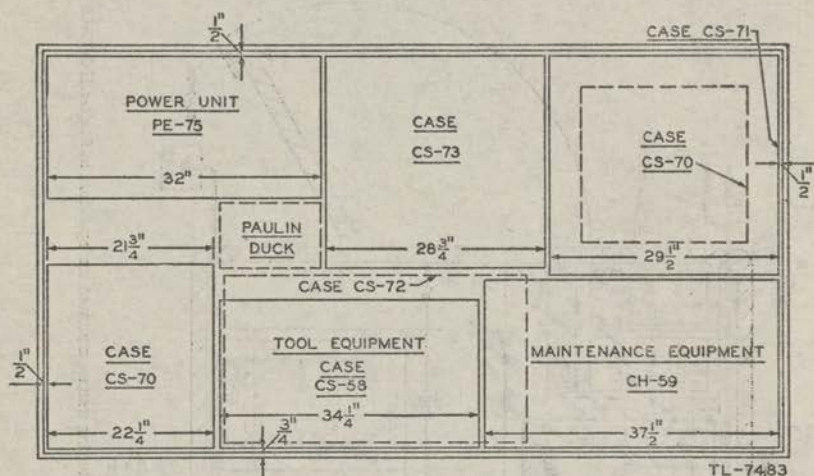

FIGURE 40.—Arrangement in trailer of unfastened equipment when two-position Telephone Central Office Set TC-2 is installed in Shelter HO-17.
(2) When not in use, keep the Cabinet BE-70-(&) in Case CS-57 to protect against damage. If Case CS-57 interferes with the operation or maintenance of the central offices at operating points, it may be removed from the shelter.
e. *Unfastened equipment*.—When only one switchboard and main distributing frame is included in Telephone Central Office Set TC-2, locate the unfastened components in Shelter HO-17-(&) or HO-27-(&), as shown by the dotted outlines in figure 38. If two switchboards and main distributing frames are included in Telephone Central Office Set TC-2, a trailer, 1-ton, two-wheel, cargo, is required for the unfastened components. These components are located in the trailer in the positions shown in figure 40.